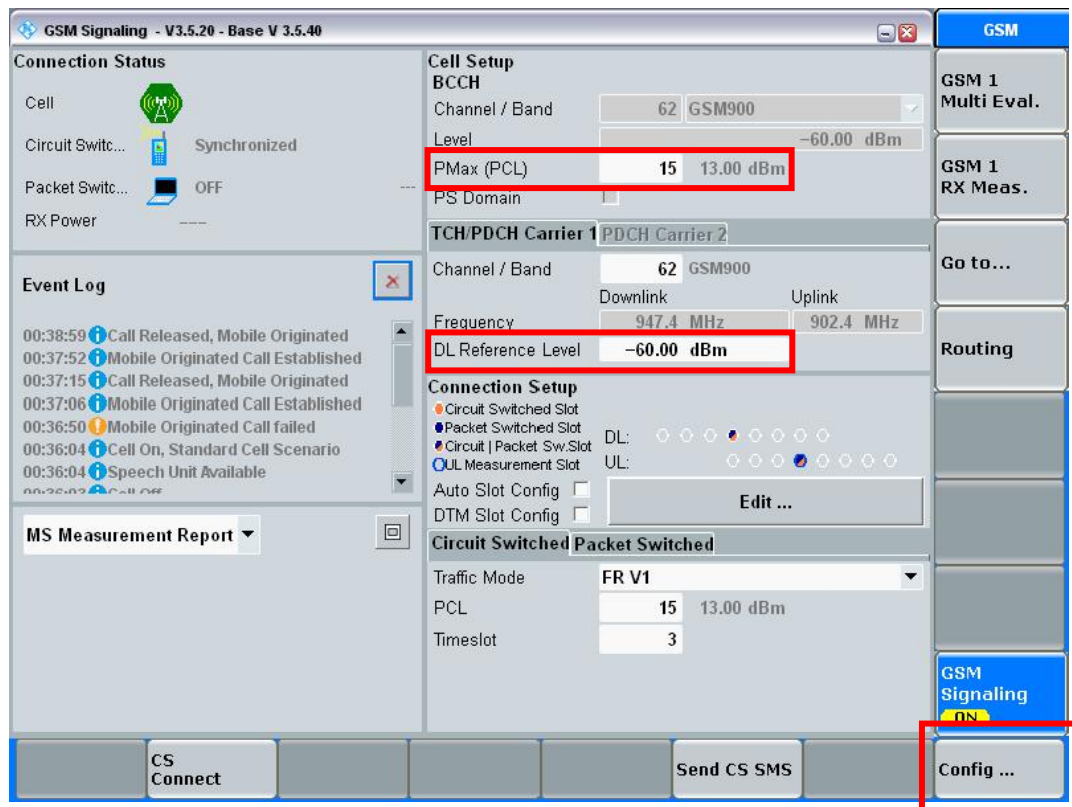

Figure 31: Main GSM Settings
1. In the main settings screen, set the **DL Reference Level** to **-60,0 dBm** and the **PMax (Power Class Level)** to 10 (or higher) (see Figure 31: Main GSM Settings).
2. Select **Config...** for the advanced settings (Figure 31).